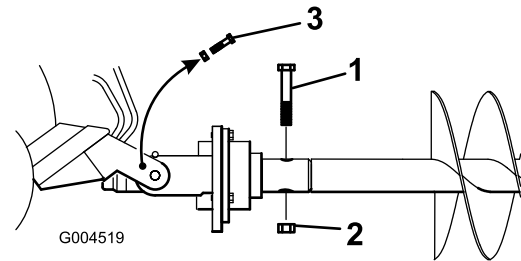

Figure 8
- Secure the auger to the drive head with a bolt (7/8 x 4-1/2 inch) and nut (7/8 inch) as shown in Figure 8.